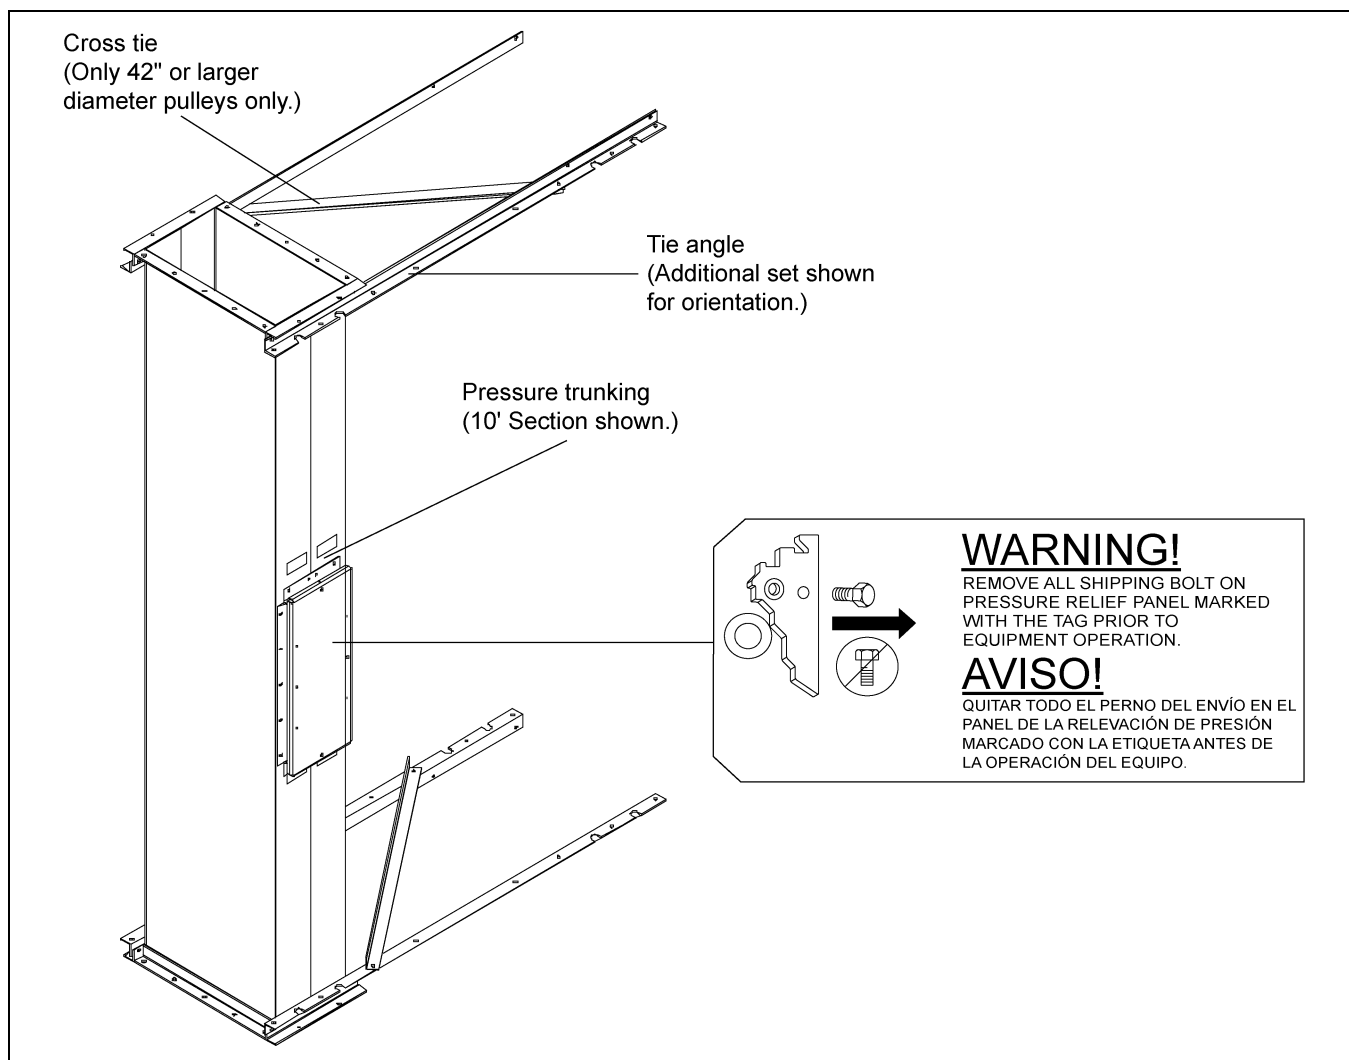

Figure 7C Pressure Relief Trunking
2. Two (2) tie angles are included with the mounting hardware.
3. Systems utilizing 42" diameter and larger pulleys require the installation of a cross tie located on the legs. (See Figure 7C.)